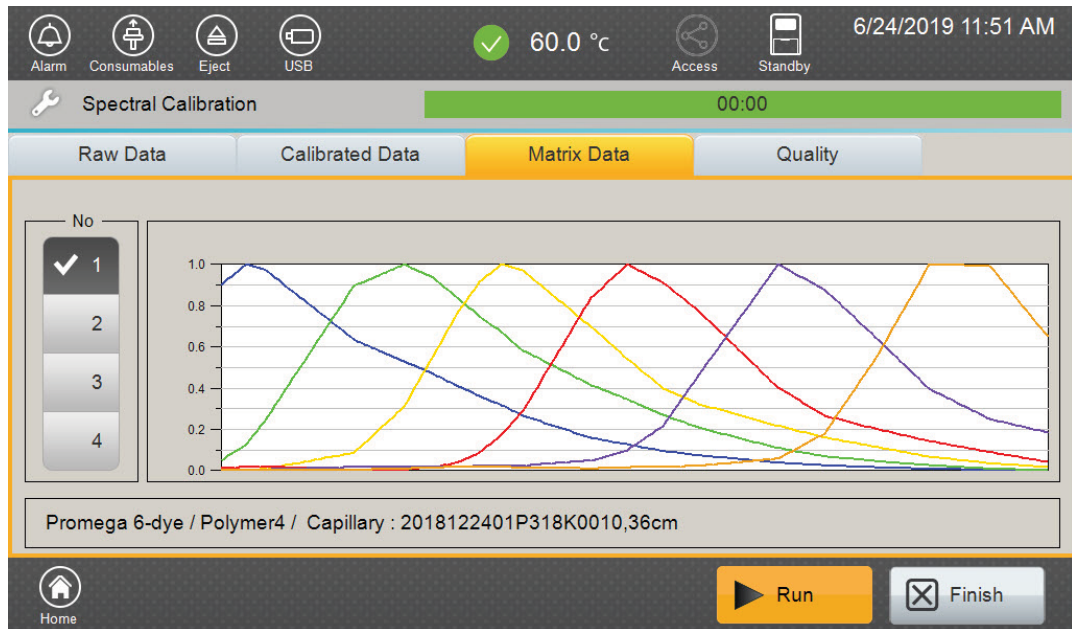

Figure 26. Spectral Calibration 'Matrix Data' tab screen.
3. The 'Matrix Data' tab can be used to view emission spectra for each capillary (Figure 26).